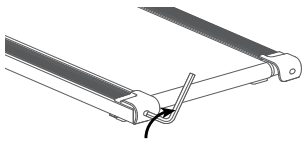

Figure 1
1. a. Lift the upright column to the end position (Fig 1).
- If the walk belt has shifted to left, use the **5mm L-type** hex tool to turn the left idler roller screw clockwise **1/4** of a turn(refer to figure 1).